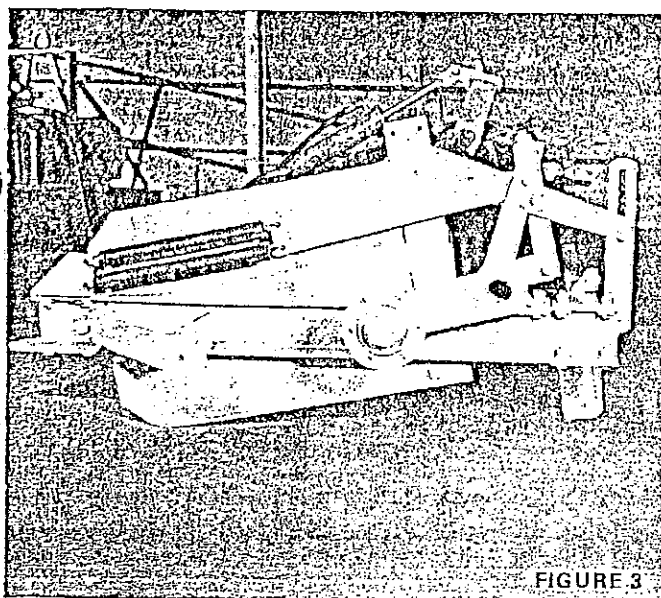

FIGURE 3
The entire bucket section, and the dirt load carried by the cutting blade, is spring counterbalanced. As noted above, and as shown in Figures 3 and 4, the center wheels serve as gauge wheels, to follow the ground contour, and to activate the blade accordingly. When the center wheels encounter a ridge in the field, they will *raise* to the top of the ridge and automatically push the blade *down* to cut off the ridge. Then, when the center wheels encounter a depression in the field, they will *lower* into the depression and automatically *lift* the cutting blade to fill the *low* spot. The *only* conditions under which the center wheels can perform this function are if the overhead truss remains rigid as noted above, and if the counter-balancing *springs* are *correctly* adjusted. (See sections on side spring and rear spring settings.) An important point to keep in mind is that the interaction between the center wheels and the cutting blade takes time and that
permit the blade to move down to cut, or raise to dump. (Note from Figures 3 and 4 how the automatic action can be completely locked out.)
- The center wheels can move the blade up or down, to cut or fill, only if the lift pipe arms are *normally* in the center of the slots. If they *normally* run at the *top* or *bottom* of the slots, then the automatic action is locked out. (Refer to Figures 3 and 4.)